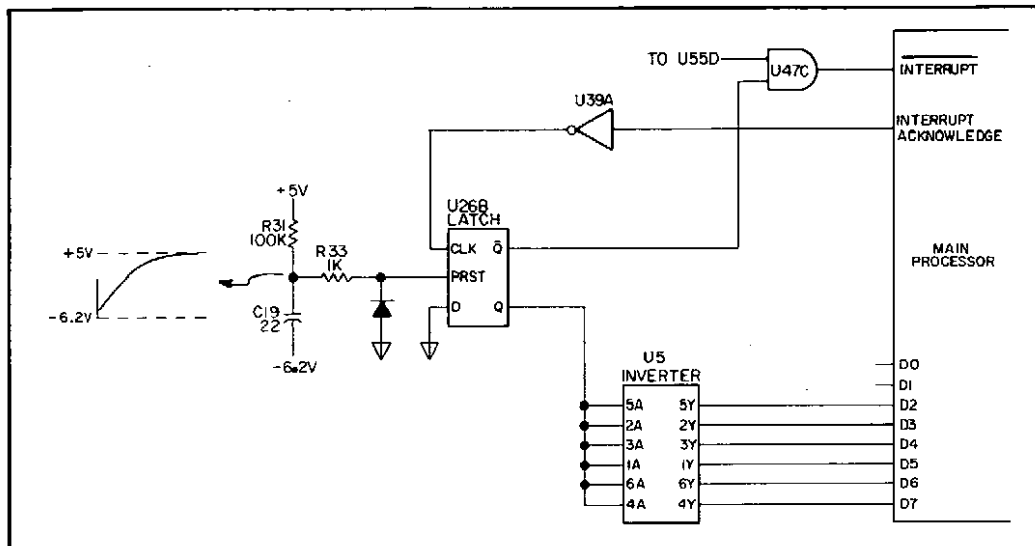

Figure 8-42. Simplified Turn-on Interrupt Circuit.
**8-139. Turn-On Interrupt.** The purpose of the "turn-on" interrupt is to start the main processor at a known program address when power is initially applied to the voltmeter. Figure 8-42 shows a simplified schematic of the turn-on interrupt circuit. At turn-on, a negative-going pulse is applied to the "preset" input of latch U26B from the RC network composed of R31 and C19. This sets the "Q" output high and the " $\bar{Q}$ " output low. The  $\bar{Q}$  output is applied to U47C which sets the interrupt input to the processor. The Q output is applied through inverter U5 to the processor data bus (D2 through D7) to set the starting address.